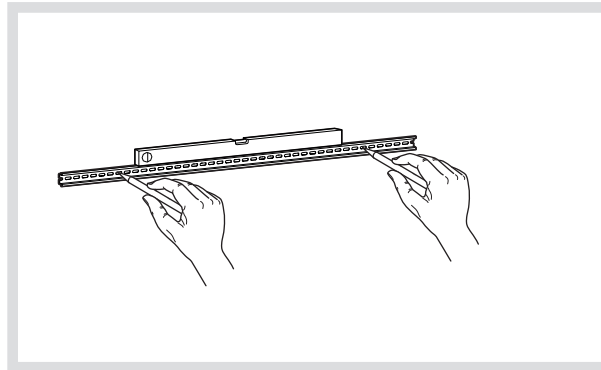

Figure 6: Mark the drillholes
- Place the supporting rail horizontally against the wall and mark the fixing holes so that the minimum distance of 20 cm between the energy storage system and the ceiling and floor is maintained (Figure 6).